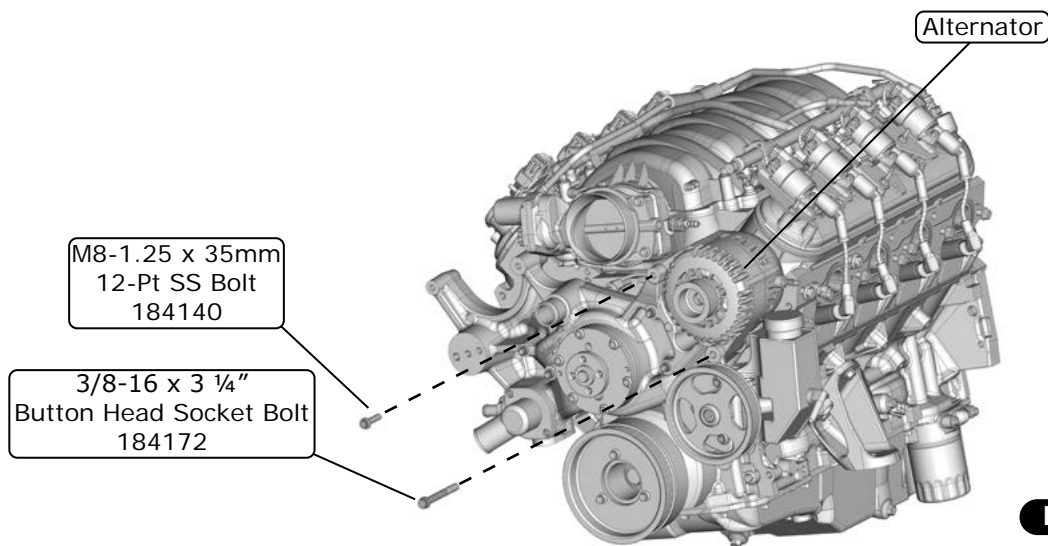

Figure 3
- For system **without** power steering, secure lower alternator boss with 3/8-16 x 3 1/4" button head SS bolt torqued to 15 lb-ft (See Figure 3, below).